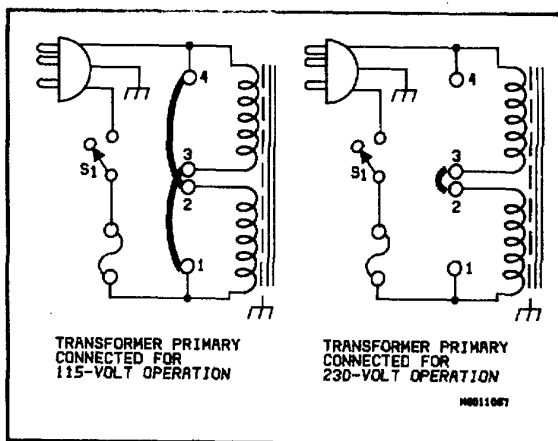

Figure 2-3. Input Power Transformer, Connections
(Figure 2-3)
- b. Remove the jumpers between taps 4-2 and 3-1. Solder a jumper between taps 3-2 on the input power transformer T1, see Figure 2-3.